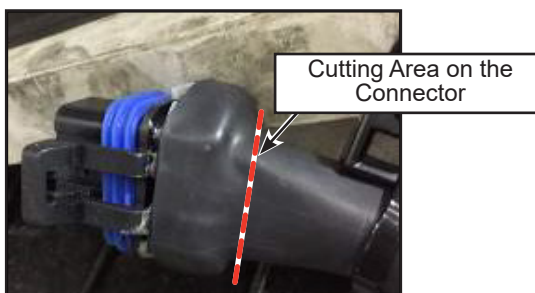

Figure 6 - Harness Side Connector Removal
- 1.11. On the harness side, cut the connector with the terminals directly at the back end of the connector housing (see figure 6) and clean the wires with contact cleaner, if glue or dirt is present.